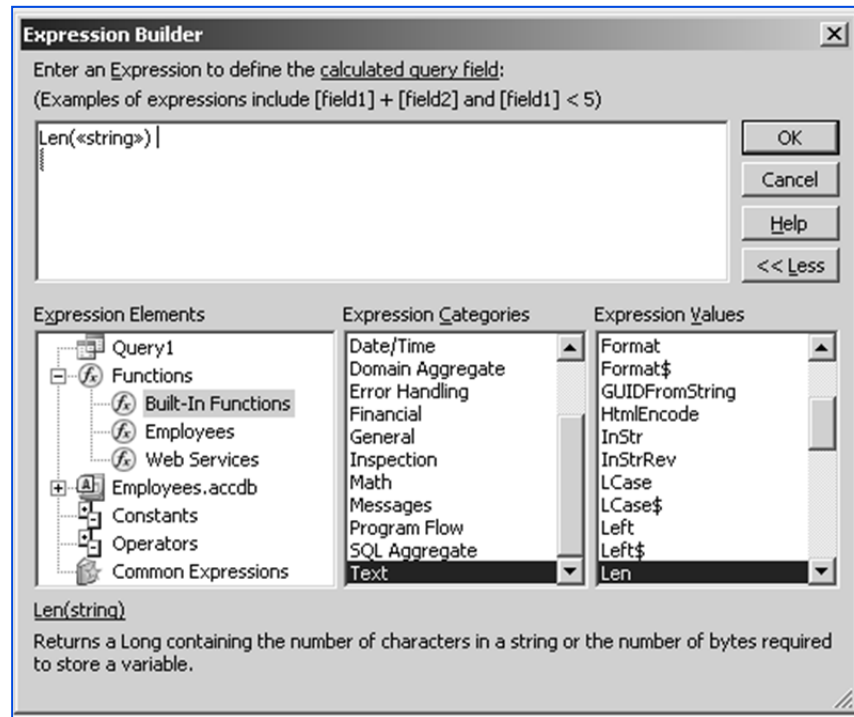

Fig. 3.5.6. Paste the expression
7. Double Click the Len function to include expression in *Expression Box*, as shown as in Fig. 3.5.6.